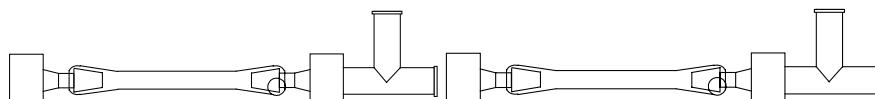

Figure 14. Connecting Two Manifold Pieces Together
- 2 Insert the Luer fitting on the end of one manifold piece onto the T-connector of the next piece (Figure 14) and twist until the two manifold pieces are connected snugly.